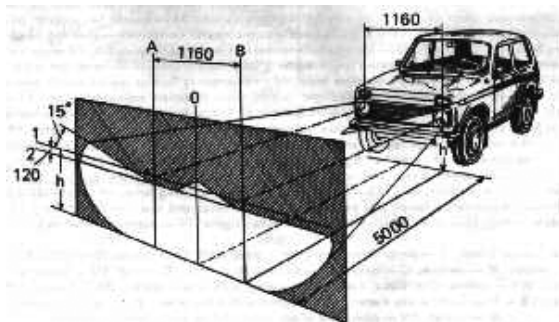

Fig 67. Aiming headlight lower beam
1. Place the car in running order with a load of 750 n (75 kg) on the driver's seat and with normally inflated tyres on a level ground (Fig. 67) at a distance of 5 m from a vertical white screen located in a shade. A white wall of a building may serve as a screen.
1. Switch on the lower beam and rotating screws 1 and 2 (Fig. 68), set the light units so that the horizontal border-line between the light and dark zones passes along line 2 (Fig. 67), and the inclined limiting lines come from the points of intersection of lines A and B with line 2.